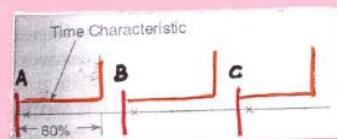

Fig 2.2. Instantaneous overcurrent Protection
- \* As seen in the figure 2.2, the **operating-time** is kept the same for all the relays.